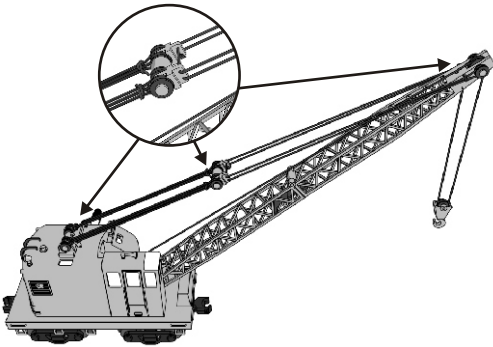

Figure 1. Loosely secure the cables with several small pieces of string.
**For those of you who have a tunnel,** we have designed the boom to fold so that the crane can run on tight radius track. Before you do this, M.T.H. **strongly** recommends that you secure the cables with several small pieces of tape or string. If you choose to tape or tie the cables, secure them together just above the boom block assembly on the car's base, just below the snatch block, and just below the boom sheave on the end of the boom. If you use string it will allow the cables to move, however, if you use tape you will need to remove the tape if you wish to raise or lower the hook or boom. (See figure 1)